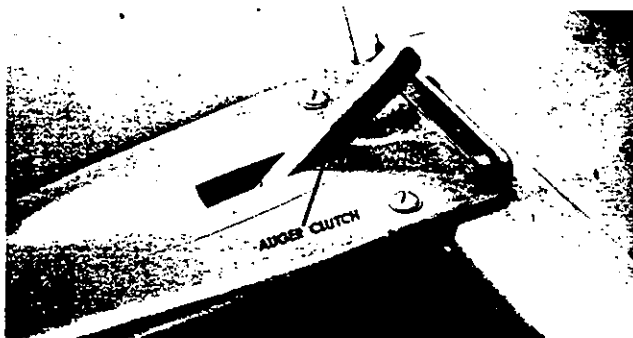

FIGURE 2.
**Auger Clutch** is located on the Left Hand side of the frame just behind the thrower housing. (Shown in the disengaged position.) When the handle is up, the auger is disengaged. **WARNING:** Engaging auger clutch with main clutch already engaged will damage pins on sprocket hub assembly. Damaged pins cause hard engagement and clutch malfunction. Do not engage or disengage the auger clutch without first disengaging the main clutch. Disengaging the auger clutch allows you to drive the snow thrower to and from the work area without the auger turning. (See figure 2.)
1. With the main clutch disengaged and with the engine running at near top speed, engage the auger clutch. (See figure 2.)